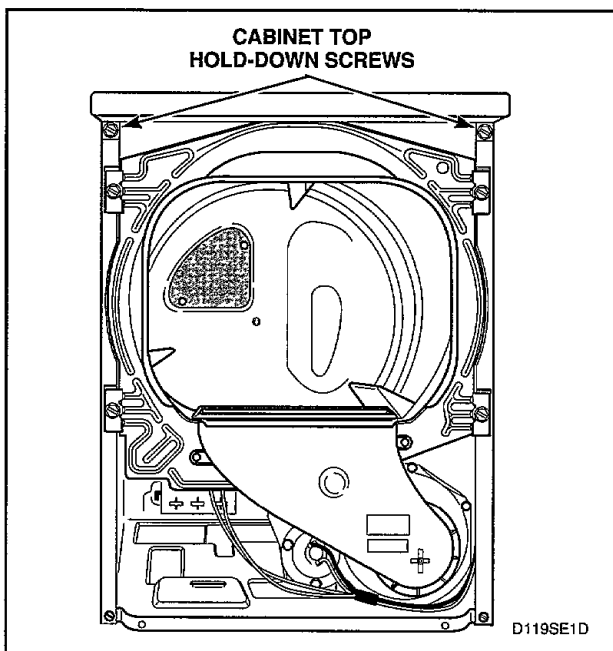

Figure 12
- m. Remove two cabinet top hold-down screws, *Figure 12*.
- l. Remove two cabinet top hold-down screws, *Figure 12*.
- Remove two cabinet top hold-down screws, *Figure 12*.